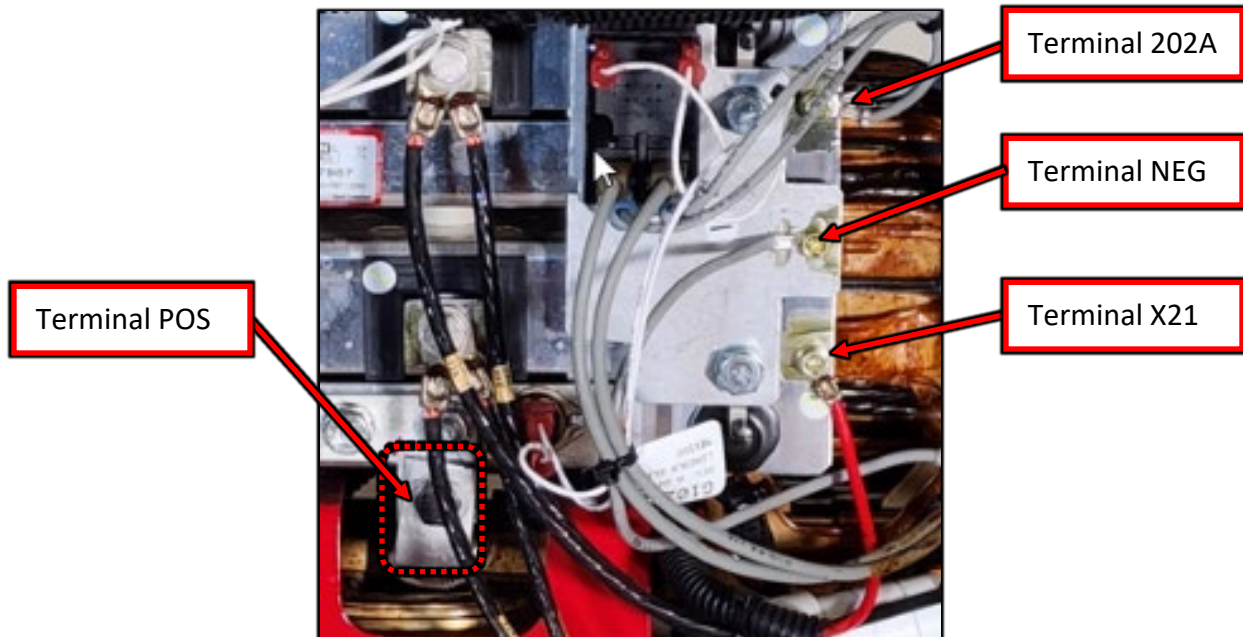

Figure F.2
- A.2. Label and disconnect the following connections, refer to Figure F.2..
- A.3. Perform the static measurements in Test Table 1, refer to Figure F.2 for test point locations. NOTE: MEASUREMENTS ARE TAKEN ON THE TERMINALS NOT LEADS.